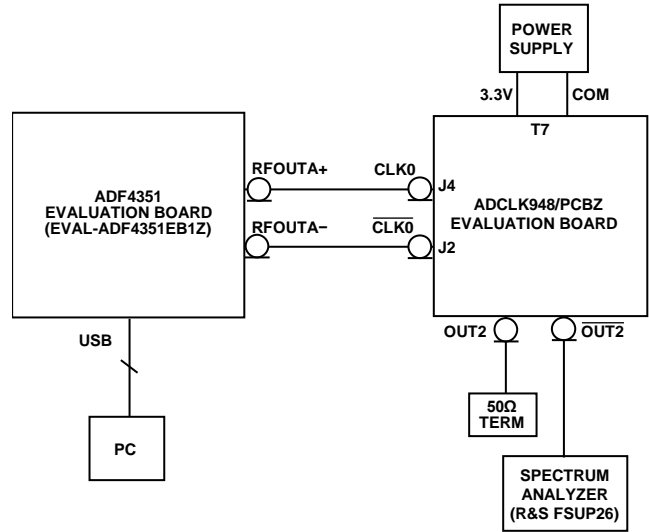

Figure 5. ADF4351 Phase Noise and Jitter Measurement Setup
2. Terminate the unused CLK2 output of the ADCLK948/PCBZ with a 50 Ω load (see Figure 5).
3. Connect the CLK2 output via a SMA cable to the signal source analyzer (see Figure 5).